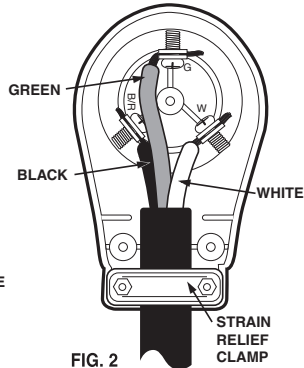

FIG. 2
- Raise terminals just enough to access screw and clamping plate. Insert wire between terminal and clamping plate. (Fig. 3) Tighten screw to 25 in-lb to securely fasten wire. Make sure green wire is on top and the black and white wires are on the bottom, underneath the green wire. Start with the green grounding wire. (Fig. 2)